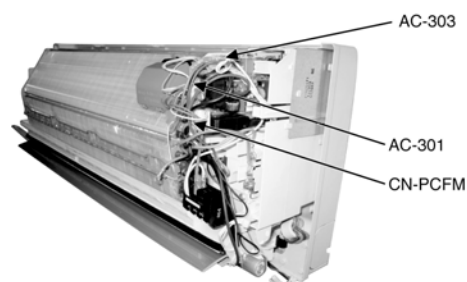

Fig. 7
- Release the AC-301 (BRW) connector.(Fig. 7)
- Release the AC-303 (WHT) connector.(Fig. 7)
- Release the CN-PCFM connector.(Fig. 7)